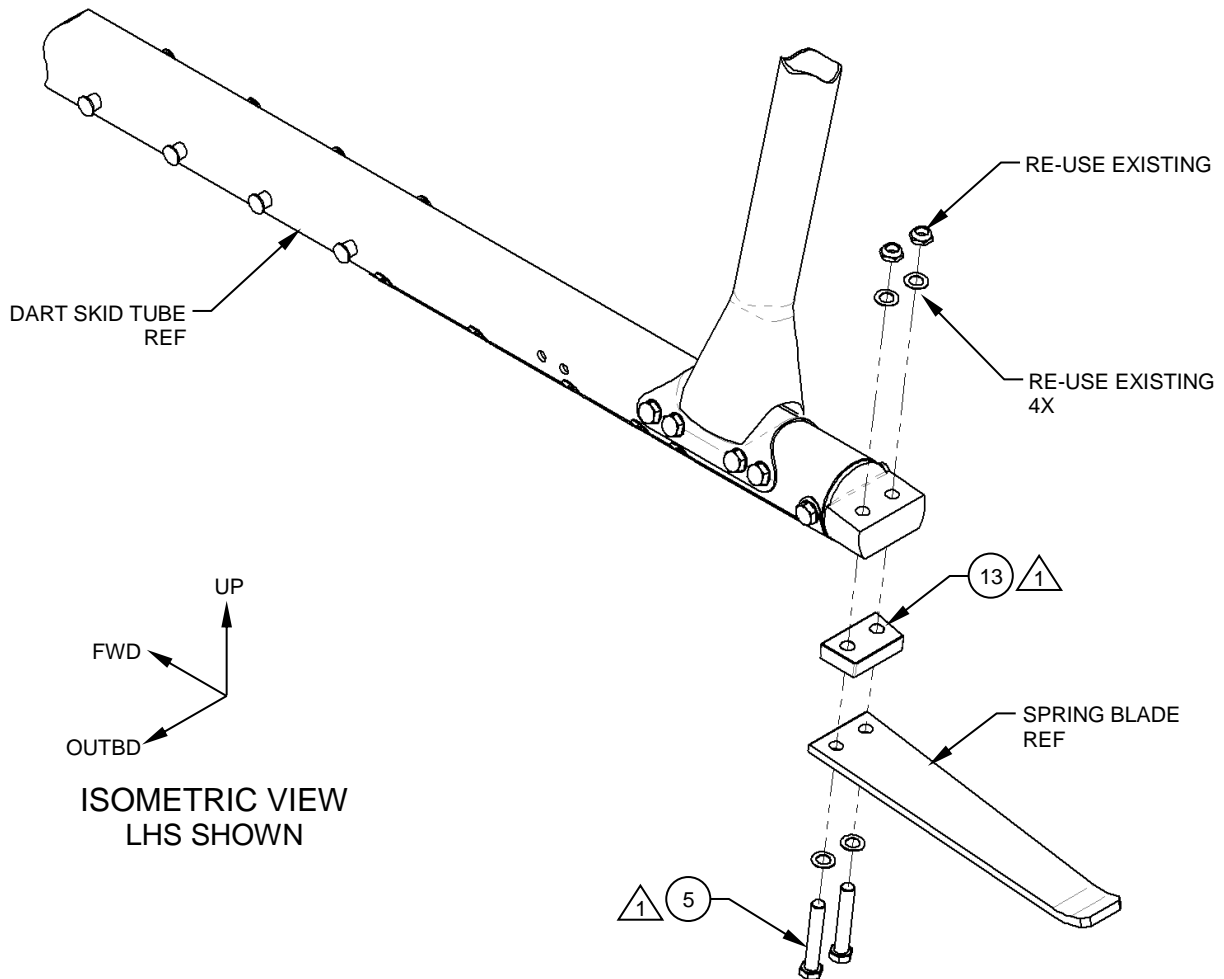

Figure 3
5. Remove the spring blade, Spacer, Detail (Item 13), the nuts and the Bolt, Details (Item 5). Reference Figure 3.
1. All replacement procedures associated to Dart skid tubes are the same as OEM skid tubes except for the following. Reference OEM Skid Tube Replacement Steps 1 through 7 and Figure 3.
2. With the aircraft raised Install the Spacer, Detail (Item 13) between the spring blade and its associated fitting using the provided Bolts (Item 5). Re-use the existing washers and nuts. Reference Figure 3.